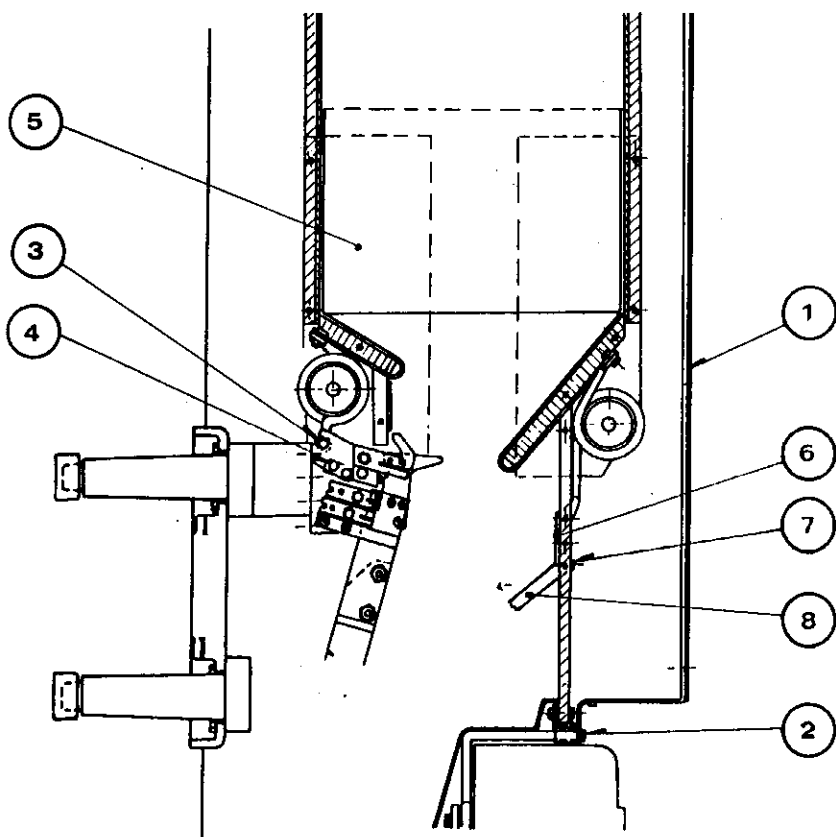

Fig. 9
5.3.2. Arc-chute fitting (fig 9)
7.1.1. Arc chute inspection (fig 9)